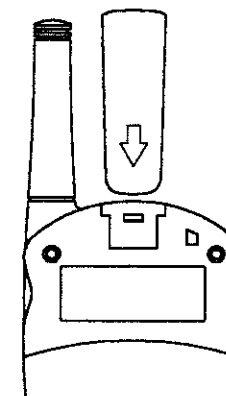

Figure 2.
1. Slide the BELT CLIP into the BELT CLIP SLOT. See Figure 2.